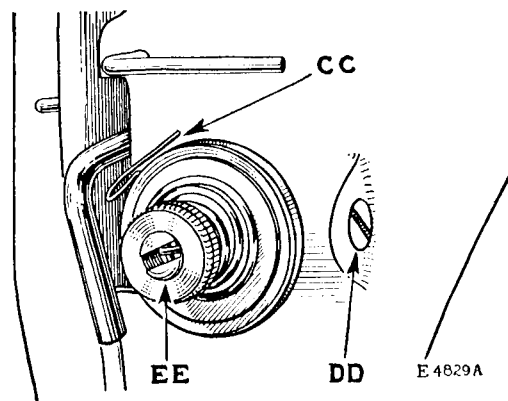

FIG. 26. ADJUSTMENT OF THREAD TAKE-UP SPRING
The thread take-up spring (CC, Fig. 26) should be set so that when the eye of the needle reaches the goods on the downward
stroke of the needle bar, the spring will be through acting and will rest against the stop on the thread take-up spring regulator. If the thread take-up spring is not correctly set, as instructed above, loosen the set screw (DD, Fig. 26) in the arm of the machine, and turn the tension stud (EE, Fig. 26) to the right for more movement of the spring or to the left for less movement. When the spring is correctly set, securely tighten the set screw (DD).